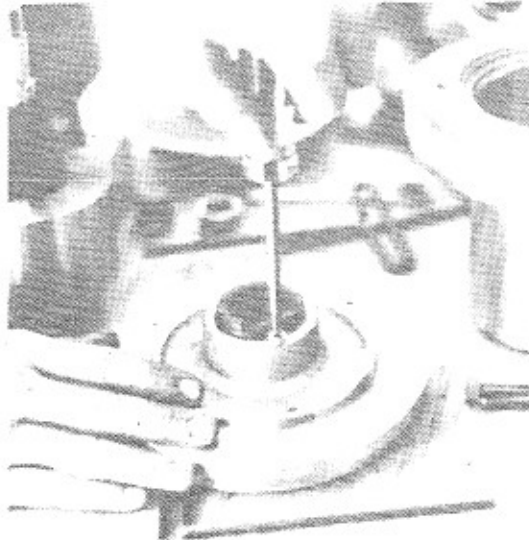

Figure 11
- H. Remove the bushings (Part No. 22) from the rear casing (Part No. 4) and the casing cover (Part No. 3) by removing the flat head capscrew (Part No. 27A) and the detent washer (Part No. 27) [Fig. 11].